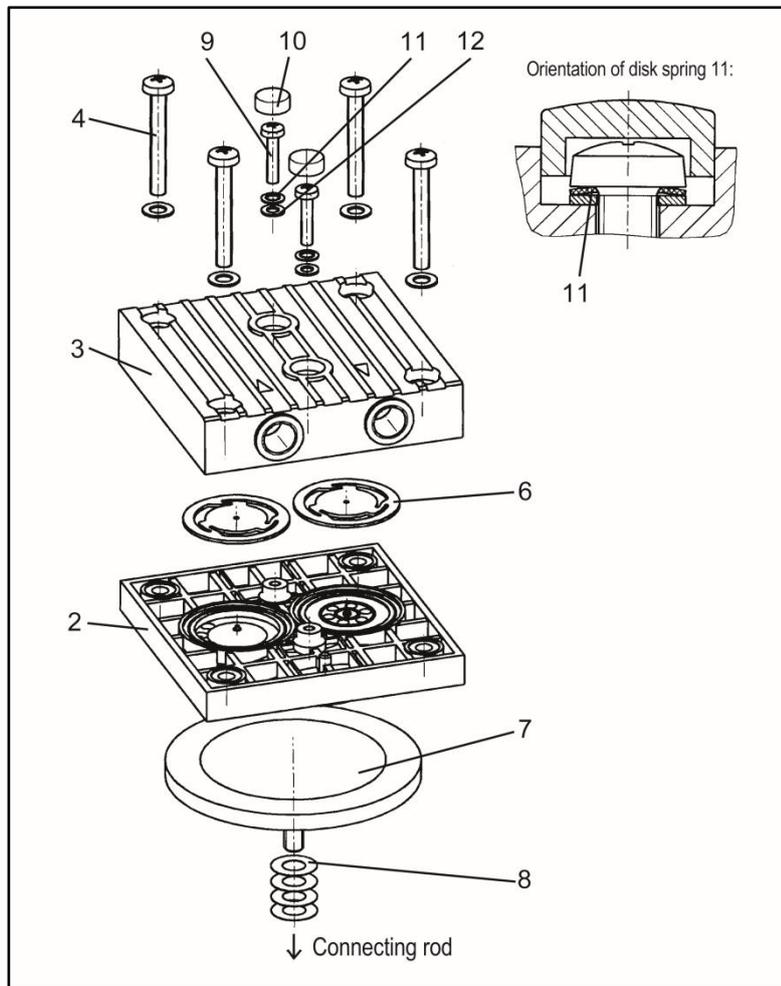

Fig. 30: Pump head N 828 KN_-versions (pump head made of plastic)
1. Use a small screwdriver to remove the two screw caps (10) on the pump head and then undo the screw(s) (9).
2. Separate the head plate (3) from intermediate plate (2).
3. Remove the valve plates/sealings (6) from the intermediate plate.
5. Lay the new valve plates/sealings (6) in the recesses in the intermediate plate (2). The valve plates/sealings for suction and pressure sides are identical, as are upper and lower sides of the valve plates/sealings.
7. Place the head plate (3) on the intermediate plate (2), in the position indicated by the marking (M).
8. Check that the head plate (3) is centered by moving it gently sideways.
9. Join the head plate (3) and the intermediate plate (2) by tightening the two screws (9) with disk spring (11) and washer (12). For orientation of disk spring (see Fig. 30). Torque for tightening the screw(s): 25 Ncm.
10. Install the screw cap(s) (10).